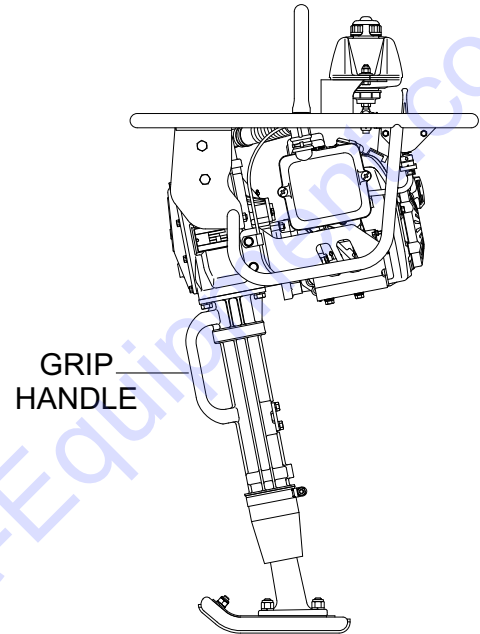

Figure 1. Rammer Handle Grip
- Make sure that there is no damage to the bolts that secure the grip handle (Figure 1).